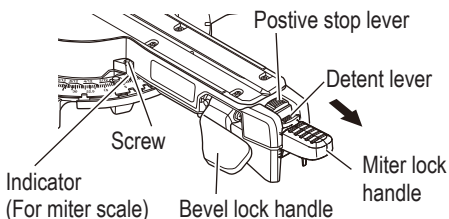

Fig. 27
The slide compound miter saw scale can be easily read, showing miter angles from 0° to 45° to the left and right. The miter saw table has nine of the most common angle settings with positive stops at 0°, 15°, 22.5°, 31.6°, and 45°. These positive stops position the blade at the desired angle quickly and accurately. Follow the process below for quickest and most accurate adjustments. (Fig. 27)
- (1) Push up the miter lock handle to release the turntable.
- (2) Push down the positive stop lever until the detent lever catches on it to release the “positive stop”.
- (3) Rotate the turntable and set the indicator to line up with the desired angle of the miter scale. At this time, when using the positive stop function, pull the detent lever in the direction of the arrow near the desired angle as shown in Fig. 27, release the detent lever, and move the turntable to secure it in place at the desired angle via the positive stop function. (0°, 15°, 22.5°, 31.6°, and 45°)
- (4) Push down the miter lock handle to secure the turntable in place.
Detent lever (Fig. 27)